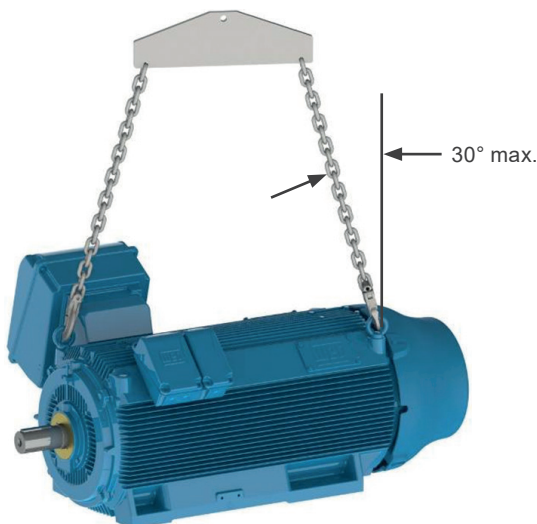

Figure 4.5: Maximum resulting angle for horizontal HGF, W40, W50 and W51 HD motors
- For HGF, W40, W50 and W51 HD motors, as shown in Figure 4.5 on page 15, the maximum resulting angle should not exceed 30° in relation to the vertical axis.